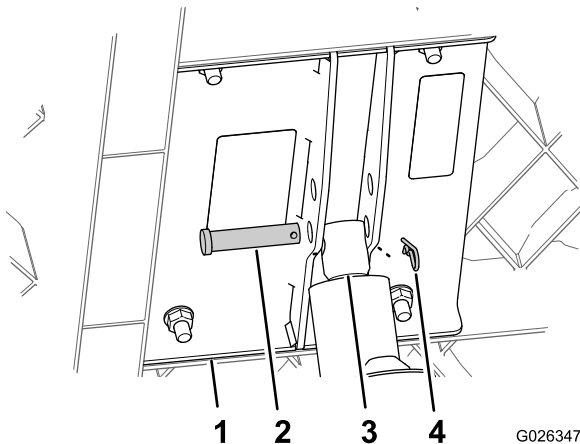

Figure 7
5. Remove the hair pin and clevis pin from the lift bracket (Figure 7).
6. Separate the rod on the cargo-box actuator from the lift bracket(s) (Figure 7).